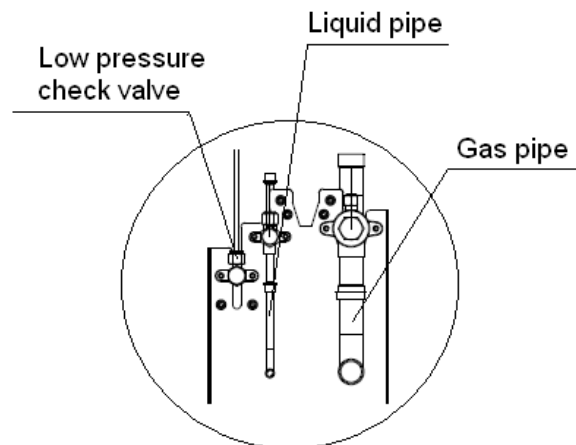
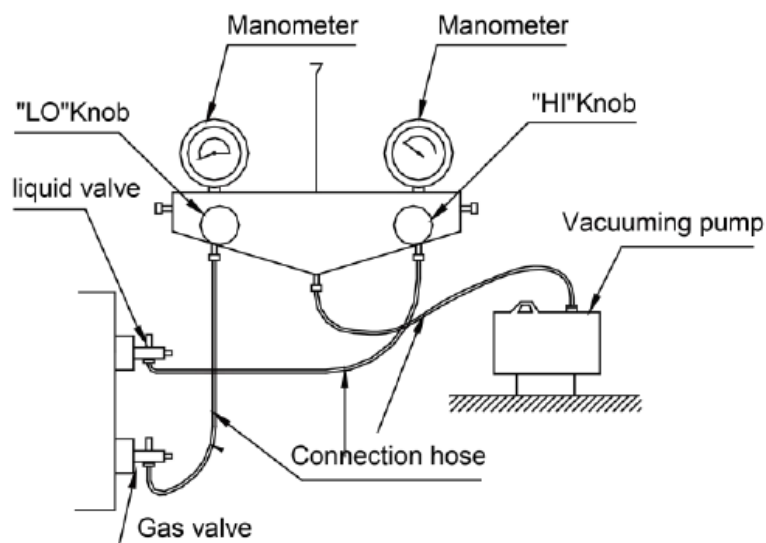

Fig.20
Fig.21
(1) Confirm outdoor liquid and gas valves are closed. Air purging from the nozzle located on liquid and gas valves by vacuum pump. See Fig.20 and Fig.21.